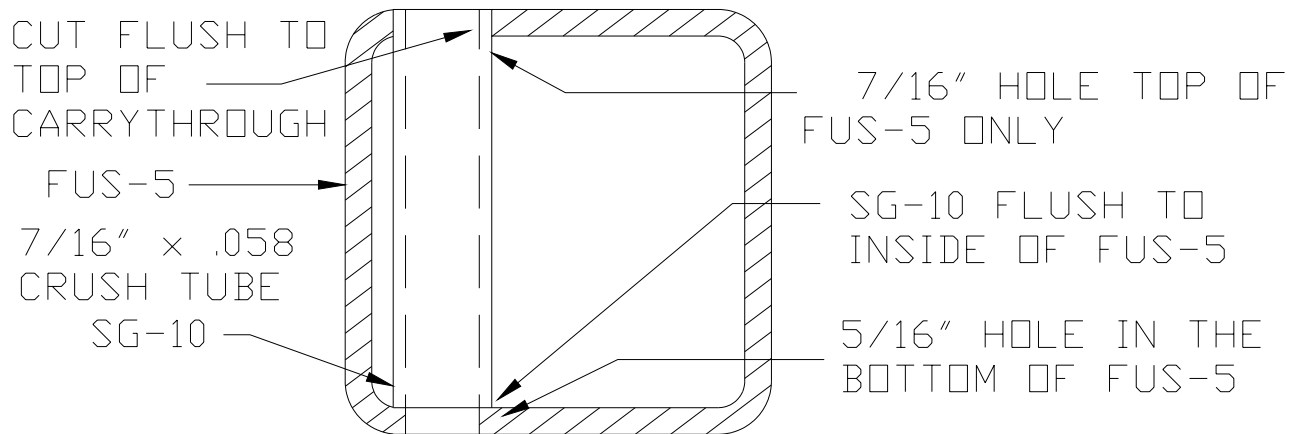

Figure 14.3.1
- 5) Next, drill the 5/16" holes in the top of the carrythrough out to 7/16" so that a 7/16" crush tube will fit through the top of the carrythroughs. **NOTE:** these 7/16" holes are only drilled in the top of the carrythroughs. The 7/16" crush tube pushes up against the top doublers on final installation. See exploded view at the front of this section and Figure 14.3.1.
- 7) Cut four pieces of SG-10 raw material 7/16" x .058 round tube 2" long. These are now the crush tubes. Trim these crush tubes so that when they are inside the carrythroughs they sit flush with the top outside edge. Figure 14.3.1.
- 8) You may have to file the top edge of the crush tubes (SG-10) so they fit snug inside the top radius of FUS-5. Figure 14.3.1.